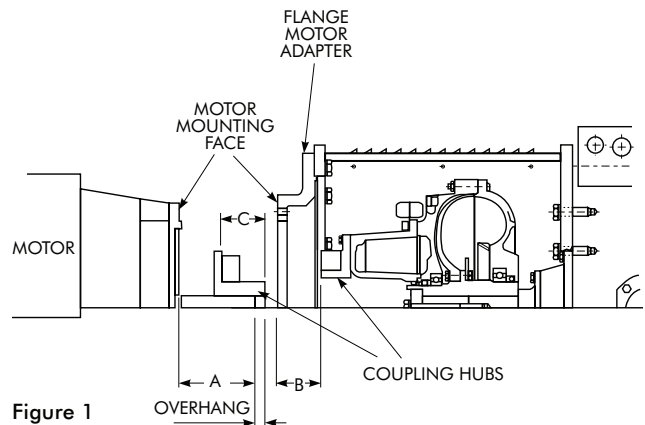

Figure 1
FLANGED MOTOR ADAPTERS — Accurate axial positioning of the coupling hub on the motor shaft is required to ensure proper coupling gap. To establish the correct overhang on the motor shaft, measurements are required. Refer to Figure 1 below. First measure the distance from the motor mounting face of the motor to the end of the motor shaft (A). Then measure the distance from the motor mounting face of the motor adapter to the face of the gear drive hub (B). Refer to the coupling installation and maintenance instructions to determine the desired coupling gap. The coupling overhang is determined from the following equation:
NOTE: For couplings where the coupling gap does not occur at the end of the motor hub, an additional adjustment must be made. See dimension C in Figure 1 below.